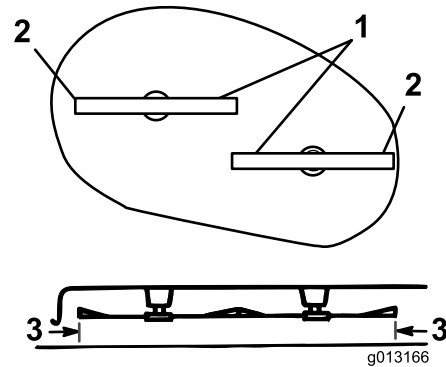

Figure 43
- Carefully rotate the blades side to side (Figure 43).
- Measure between the outside cutting edges and the flat surface (Figure 43). Ensure that the measurements are within 3 mm (1/8 inch) of each other. If they are not, go to the next step.
4. Raise or lower the right side of the mower housing by turning the nuts until the distance from the outside edges of the blades to the flat surface (Figure 43) are within 3 mm (1/8 inch) of each other, and tighten the nuts on the front and rear adjustable links.